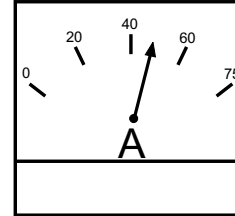

Figure 55. Ammeter (Load)
20. Observe the generator's ammeter (Figure 55) and verify that it reads the anticipated amount of current with respect to the load. Remember the ammeter will only display a current reading if the load is in use.